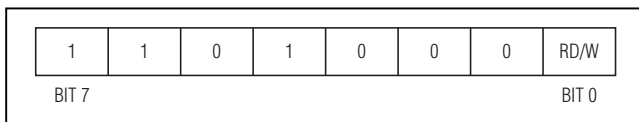

Figure 23. MAX6909/MAX6910 2-Wire Slave Address Byte
Before any data is transmitted on the bus, the device that should respond is addressed first. The first byte sent after the start (S) procedure is the address byte. The MAX6909/MAX6910 act as a slave transmitter/receiver. Therefore, SCL is only an input clock signal and SDA is a bidirectional data line. The slave address for the MAX6909/MAX6910 is shown in Figure 23.